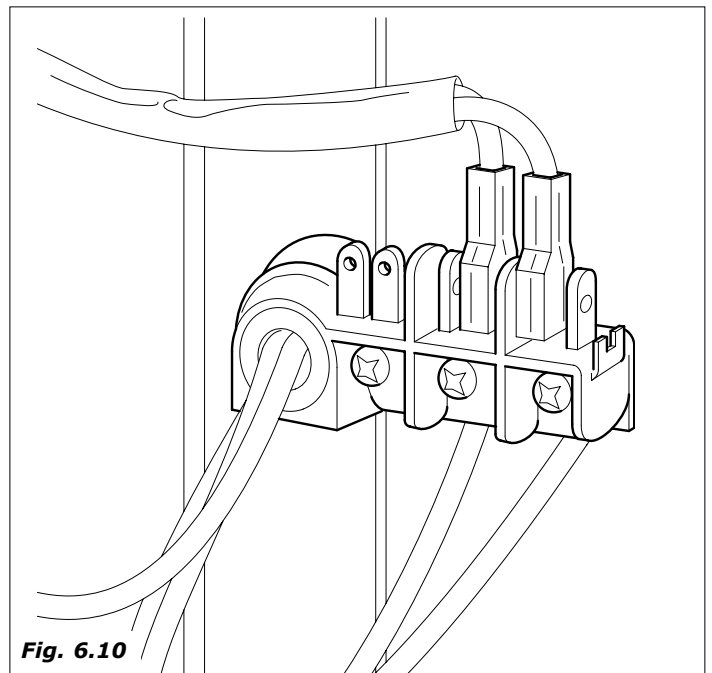

Fig. 6.10
The clamp of the power cable junction box under tension (Fig.6.10-pos.1).